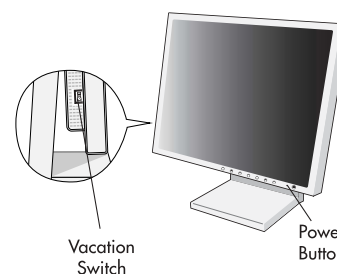

Figure B.1
5. The Vacation Switch on the left side of the monitor must be turned on. Turn on the monitor with the front power button (Figure B.1) and the computer.